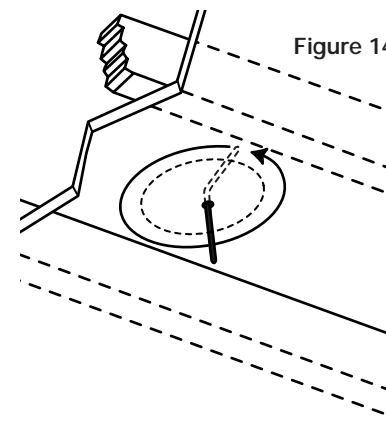

Figure 14
- Cut a foot-long piece of coat hanger. Bend the wire (creating a right angle) leaving 4-1/8" at one end for the CM5MP, 4-3/4" for the CM6MP and 5-1/2" for the CM8MP (this allows for the extra width of the mounting dogs). Poke the "L-shaped" wire into the pilot hole and turn it in a complete circle and move it into the ceiling cavity to make sure you have approximately 3-3/4" of depth. If the wires movement is obstructed by anything, fill the hole(s) with spackle and try another location. (See Figure 14)